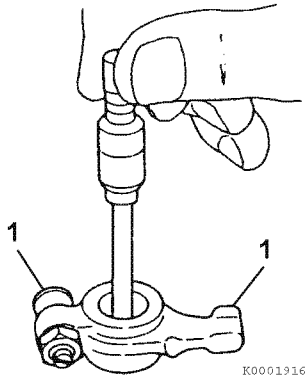

Figure 6-13
1. Use a test indicator and micrometer to determine if the inside diameter of all the rocker arm support brackets and the rocker arms (**Figure 6-13**) are within the specified limits. See *Rocker Arm and Shaft* on page 6-5 for the service limit.
2. Inspect the contact areas (1, **Figure 6-13**) for excessive wear or damage.